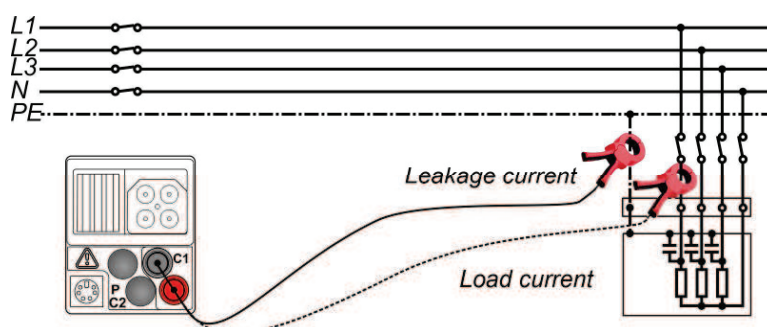

Figure 5.39: Connection of the optional current clamp adapter BENNING CC 1, BENNING CC 2 or BENNING CC 3
- ❑ Clamp the single-wire conductor by means of the current measuring clamp (see figure 5.39).